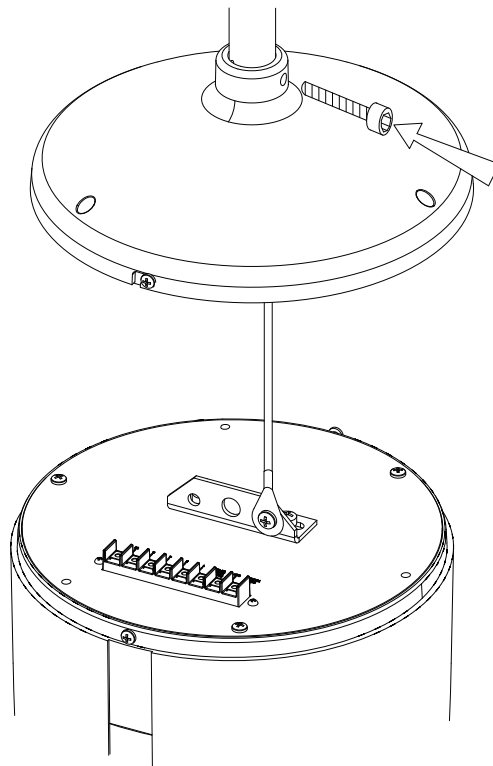

FIG.9
4. Screw the PM speaker top cover onto the bottom of the down pipe, install the safety screw through the side of the top cover and through the end of the down pipe. (Fig. 9)
6. Route the eyelet end of the safety cable through down pipe and the cover of the PM speaker, attach the eyelet to one of the smaller mounting holes on the support plate of the PM speaker with the included mounting screw. (Fig. 9)
8. Position the speaker under the top cover, align the side cover screws and rotate the speaker clockwise to align the top cover mounting screw holes. Reinstall the 3 mounting screws, tighten and tighten the side cover screws. (Fig. 9)